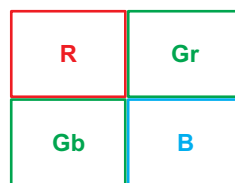

Figure 2. Bayer Pattern Data Format
The Preview Engine is useful only when the input data from CCDC is in RGB Bayer pattern format, which is common for CMOS and CCD sensors widely used in digital still cameras, camcorders, and other camera systems. The term Bayer pattern refers to a data format in which, at each pixel location, only one of the three primary colors [red (R), green (G) and blue (B) (RGB)] is available, rather than all of them, as shown in Figure 2.
The term CFA refers to the color filter array that is positioned on top of the CCD or CMOS sensor to filter out red, green, and blue components of light at each pixel position. This is a common cost-reduction technique used by CCD and CMOS sensor manufactures. The most commonly used CFA pattern is Bayer pattern, as shown below. An image sensor with Bayer pattern CFA captures image in Bayer pattern format, as shown in Figure 2.